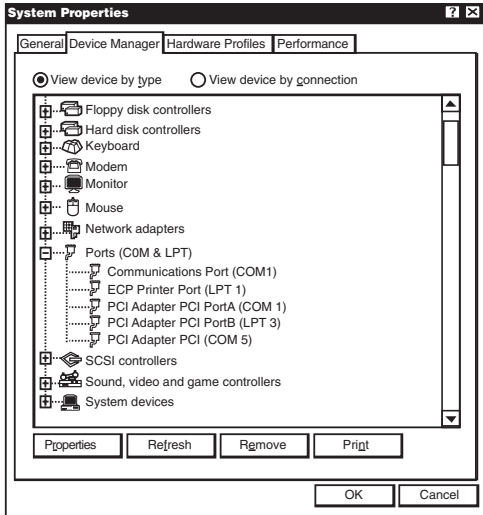

Figure 4-1. System Properties, Device Manager tab.
4. The Adapter’s ports will appear in Control Panel→System→Device Manager under Ports, as shown in **Figure 4-1**. If required, settings may be customized by clicking on a particular port and then clicking Properties.